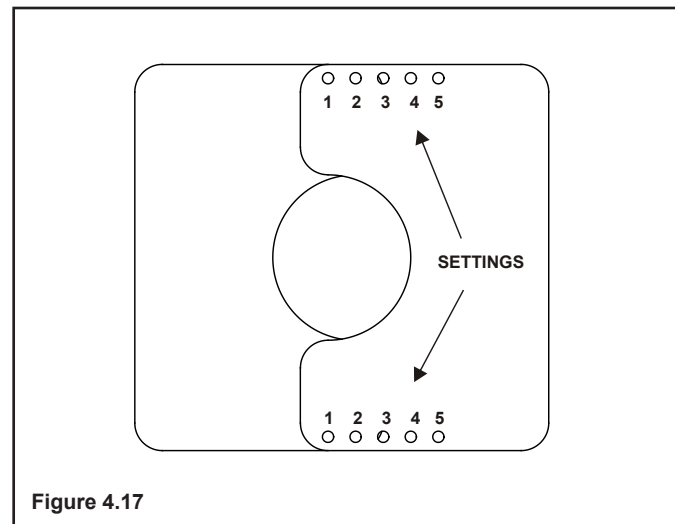

Figure 4.17
3. Use Table 4.1 to match the amount of vertical you have in the system to find the appropriate position to set the exhaust restrictor. See Figure 4.17.